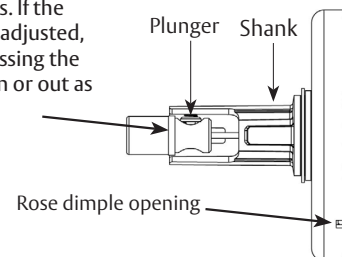

Figure 9
6. In the unlocked position, verify the button is adjusted properly. See Figure 9 for proper alignment. Adjust if necessary.